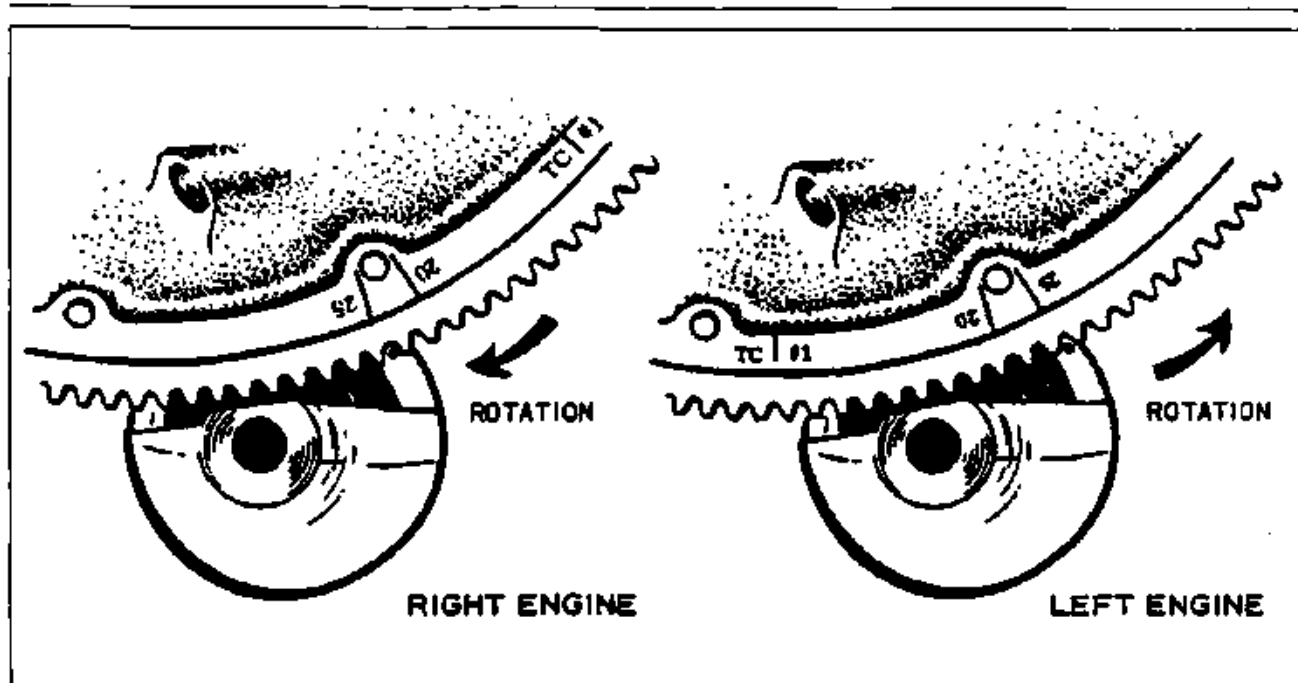

Figure 8-2. Engine Timing Mark
- b. Remove the top spark plug from No. 1 cylinder. Place the thumb of one hand over the spark plug hole and rotate the crankshaft in direction of rotation until the compression stroke is reached. The compression stroke is indicated by a positive pressure inside the cylinder tending to lift the thumb off the spark plug hole. In this position, both valves of No. 1 cylinder are closed. Turn the crankshaft opposite to its direction of rotation until it is approximately 35 degrees BTC on the compression stroke of No. 1 cylinder. Rotate the crankshaft in its direction of rotation until the 25 degrees mark on the back of the starter gear and the crankcase parting surface are aligned, or the marks on the front of the starter ring gear and the drilled hole in the starter housing align. (Refer to Figure 8-2 )
- j. Turn the crankshaft very slowly in direction of rotation until the timing mark on the front face of the ring gear aligns with the drilled hole in the starter, as shown in Figure 8-2, or the timing mark on the back of the ring gear aligns with the crankcase parting surface. At this point, the light should go out.